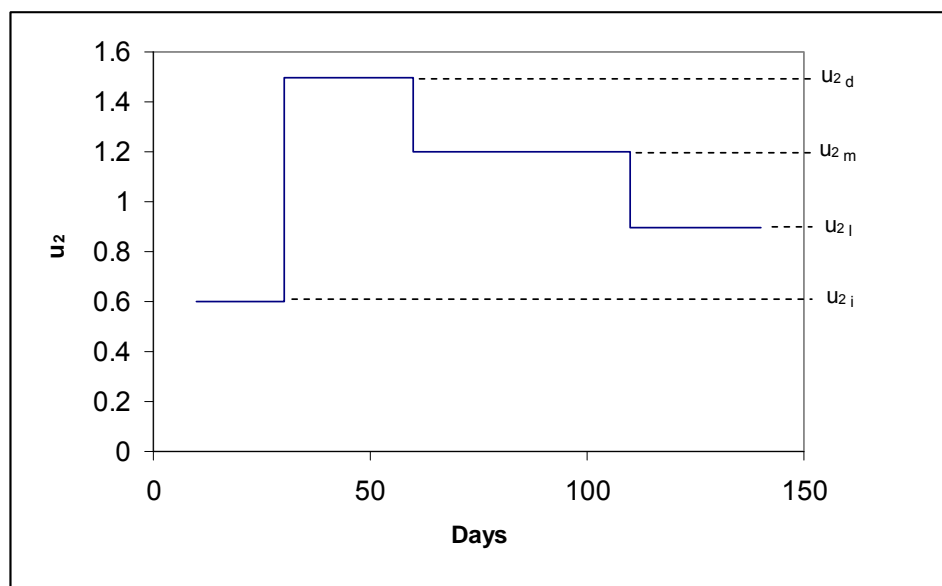

Figure 7. Example of time varying mean daily wind speed as specified in the Growth Stage Table.
8. Wind speed (u_2) - mean value of daily wind speed at 2 m height (ft/s or m/s). Values are specified for each growth stage (Figure 7, Table 1). This information is used by LAWS to compute the value of KC_{max} used in the dual crop coefficient method. See **Technical Reference** Section.